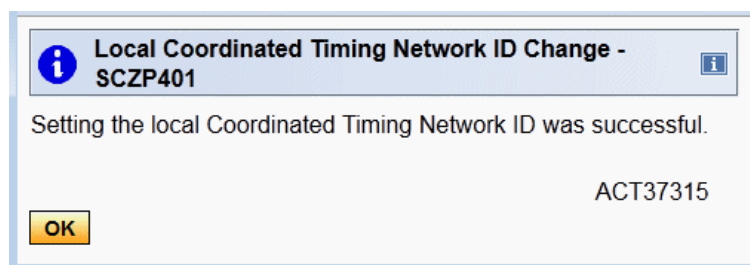

Figure 4-13 Message ACT37315 - CTN ID change success (SCZP401)
- Confirm by clicking **Yes**. This displays the Local Coordinated Timing Network ID Change, message ACT37315 (Figure 4-13). Click **OK**.